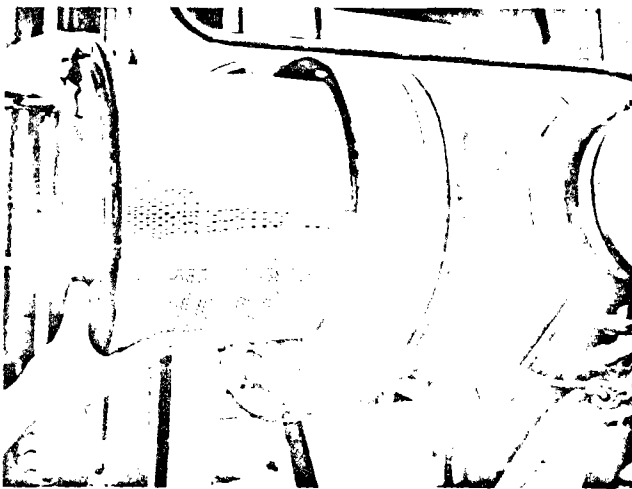

Fig. 2-10, (K11913). Changing air cleaner element
2. Pull the element (6) down from the center bolt (4).
**Caution:** Pull the cover and the element straight out when removing them from the housing, Fig. 2-10, to avoid damage to the element.